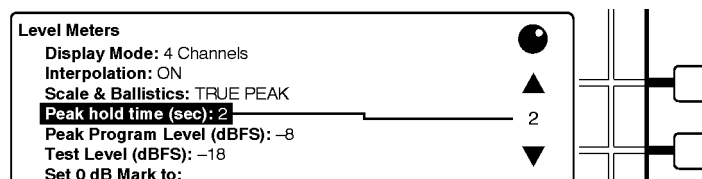

Figure 2-19: Soft buttons and numeric settings
- Again, use the multi-function knob to scroll the menu highlight to the parameter you wish to configure. The soft button assignments will change to reflect your choice of settings. For menu items that have numeric settings, the top two soft buttons become increment/decrement controls designated with up and down arrow icons, as represented in Figure 2-19.